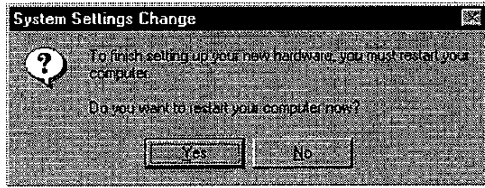

Figure 25. System Settings Change
step7. The system will ask you to restart your computer. Remove the floppy disk from the floppy drive and click *Yes* to complete the installation (Figure 25)